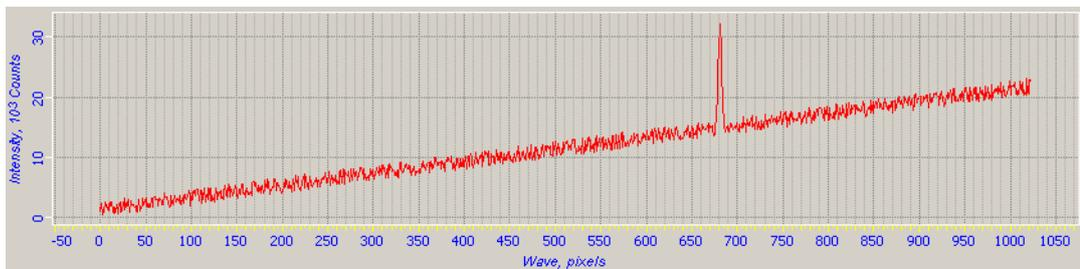

Fig. 10-18. Spectrum collected over a limited band of the CCD-matrix
5. Start collecting the spectrum by clicking the  button. The spectrum (Fig. 10-18) collected over the limited band of the CCD-matrix is of better signal/noise ratio than the spectrum collected over the whole CCD-matrix.